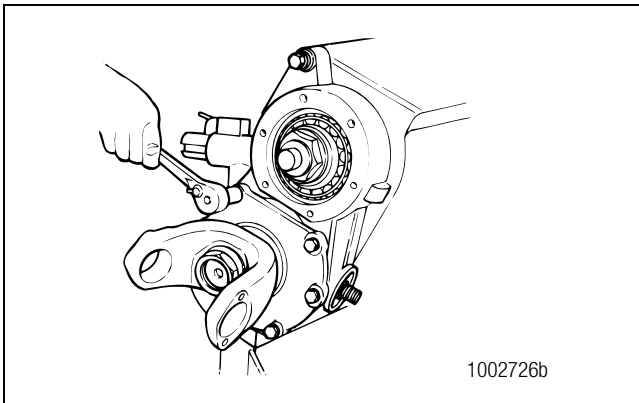

Figure 3.21
5. Remove the capscrews and washers that fasten the input bearing cage to the differential carrier. Figure 3.21.